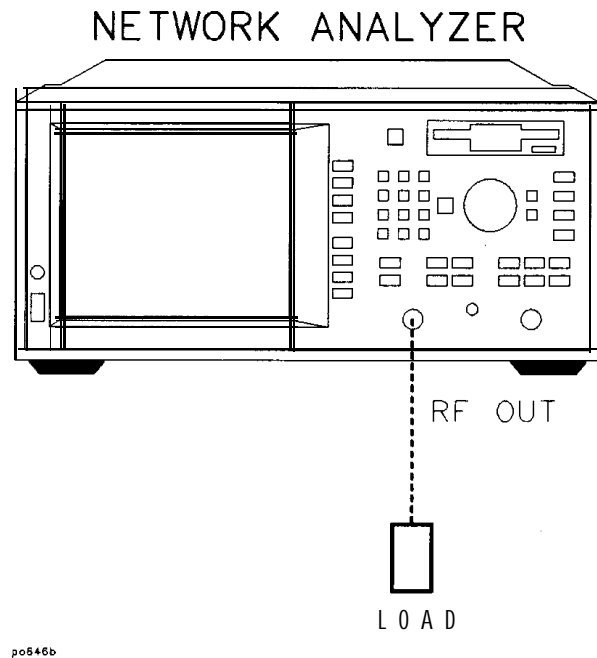

Figure 2.9. Connect the load
4. Disconnect the cable and connect a known good load to the RF OUT port as shown in Figure 2-9.